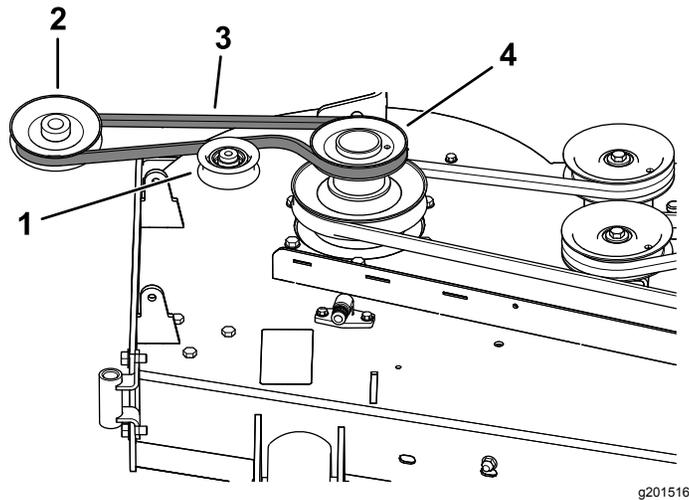
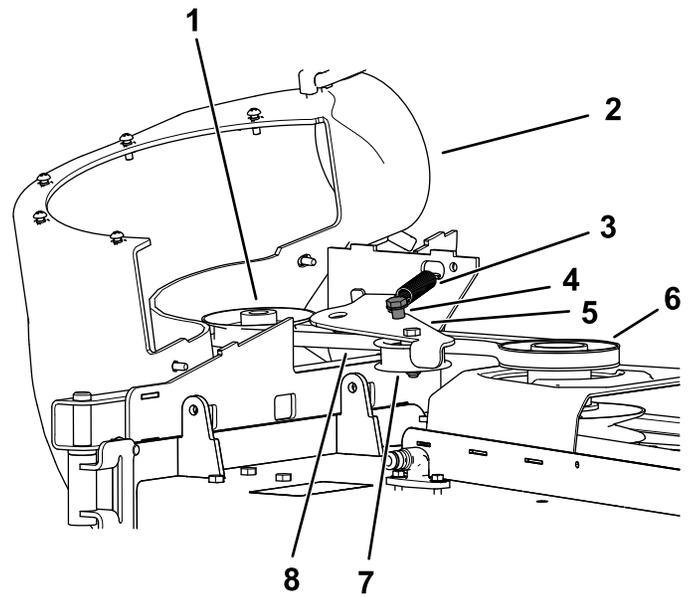

Figure 25
Figure 26
1. If necessary, install the belt onto the blower pulley (Figure 25).
1. Install the belt around the blower pulley (Figure 25 and Figure 26); refer to 10 Installing the Blower Assembly (page 14).
3. Pull the spring loaded idler pulley away from the fixed spring post, and route the belt around the mower deck pulley (Figure 26).
4. Route the belt around the drive pulley as illustrated in Figure 25 and Figure 26.